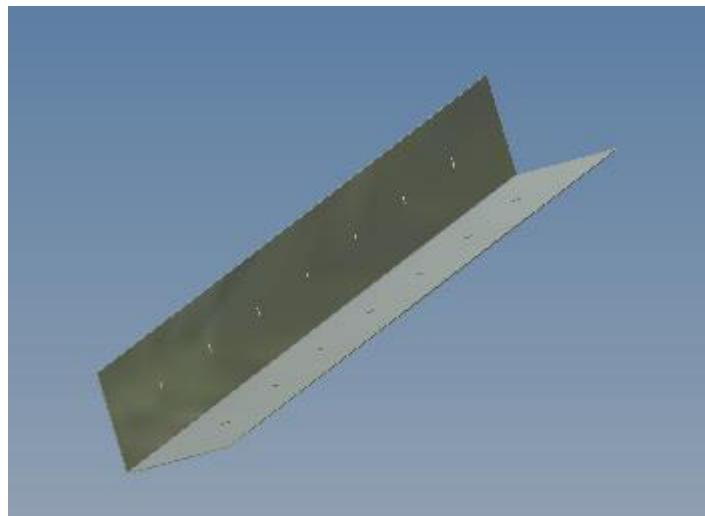
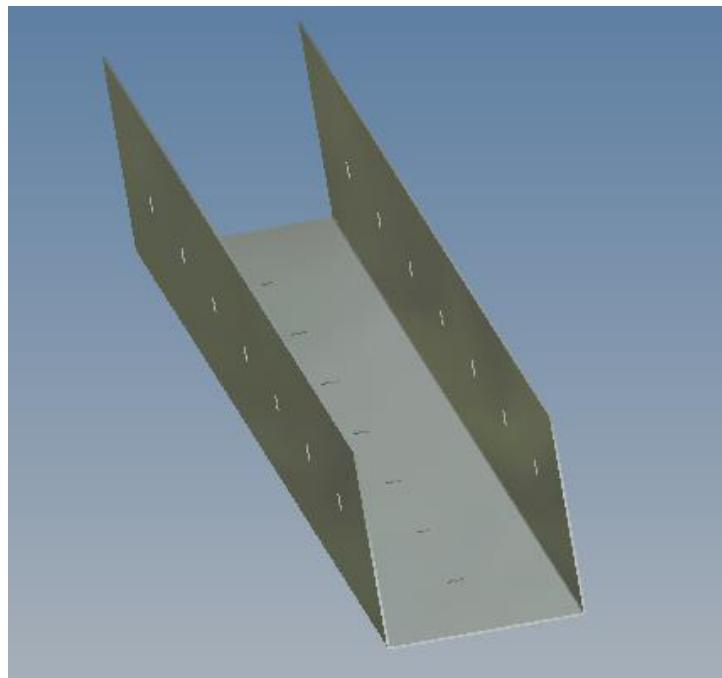

Fig. 9 Corner joint
Fig. 10 T- butt connect
- 3.2.6 Installation of the corner- connecting sheet metal (Fig. 9) and T- butt- connecting sheet metal (Fig. 10) for sealing the der constructive connection gaps.
- 3.2.8 Positioning of the horizontal bracing steel (Fig. 9) at the tension absorbing butt joints and at the project-specific adapting points according to the position plan and fixation on manufacturer instructions.